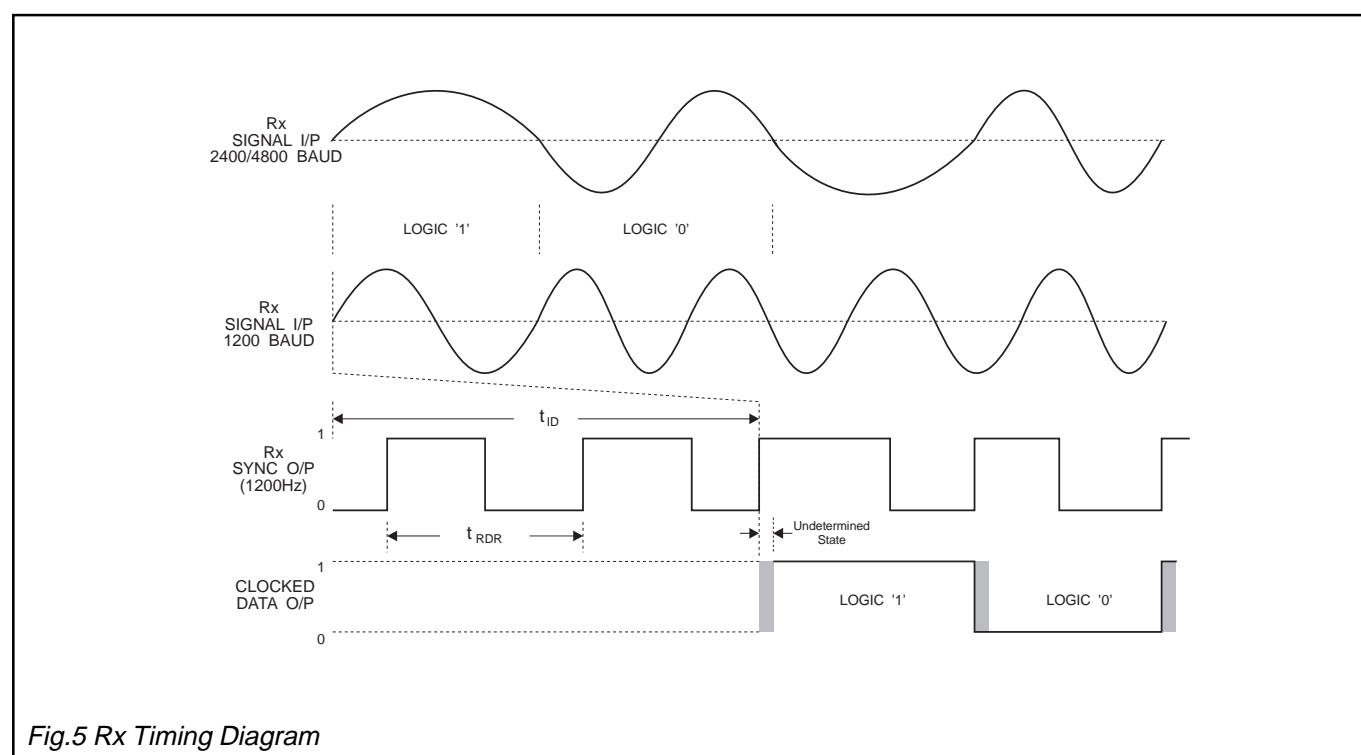

Fig.5 Rx Timing Diagram
Clocked Data O/P: The recovered synchronous serial data output from the receiver. Data is latched out by the recovered clock, available at the “Rx Sync O/P,” (See Figure 5).
Rx Sync O/P: A flywheel squarewave output. This clock will synchronize to incoming Rx FFSK data (See Figure 5).
3. See Figure 5 (variation of BER with Input Signal Level).